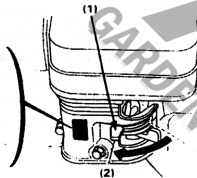

Fig. 10 (1) Choke lever
- 2) Close the choke lever. (Fig. 10)